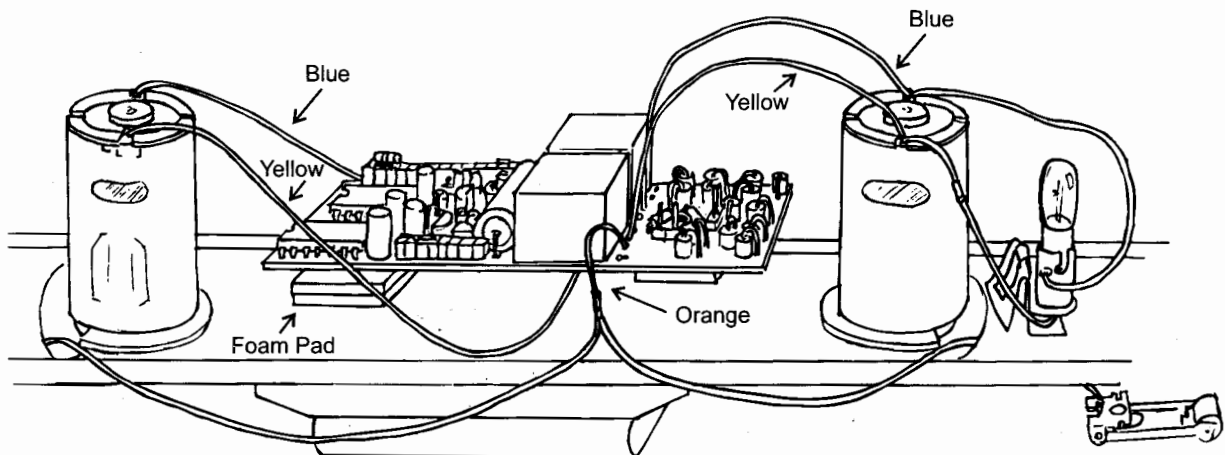

Figure 1: Wiring the DCRU-WD into a diesel chassis
3. Solder the color coded wires to the motors, rollers and chassis ground as shown in figure 1. If your engine does not have two motors, tape the ends of the extra blue and yellow wire to prevent shorting to anything and coil them up under the DCRU-WD to store them out of the way. Connect the brown wires to ground using any convenient connection on the motors or trucks. See page three.
To mount the DCRU-WD in a Williams diesel place the unit between the two motors (or lead weights if installed) and mark the location of the bridge rectifier hole on the chassis with a pencil or scribe. It is a good idea to adjust the location of the mounting hole to cause the least interference with the fuel tank or other under-body detail parts. Set the DCRU aside and drill a #32 hole (1.8" drill bit is also acceptable) through the chassis (and fuel tank if necessary). Once drilled, position the DCRU rectifier over the hole and insert the 4x40 machine screw from underneath the chassis through the hole and bridge rectifier and into the pressed-in nut on the circuit board. Cut the double sticky foam tape into two square sections and attach under the area farthest from the relays on the DCRU-WD (see figure 1) to support the board when it is screwed down. Do not remove the protective sheet from the bottom of the pad until you have tested the unit as described on page four.
After the DCRU-WD has been positioned, simply follow the wiring shown in figure 1:
If your Williams engine already has directional headlights wired to the two motors, leave these connections in place when you connect up the DCRU-WD as shown in figure 1. If you prefer that the front headlight stay on in all states (Neutral, forward and reverse) then disconnect the front headlight wires to the motor, remove any fiber paper or plastic insulator from the chassis metal tab under the lamp base and connect the bulb wire directly to the roller connection. Note that the directional headlights may be less brilliant than before the DCRU-WD was installed since the voltage to the motors is reduced by about 2v at low transformer settings. You may consider putting in a lower voltage bulb.